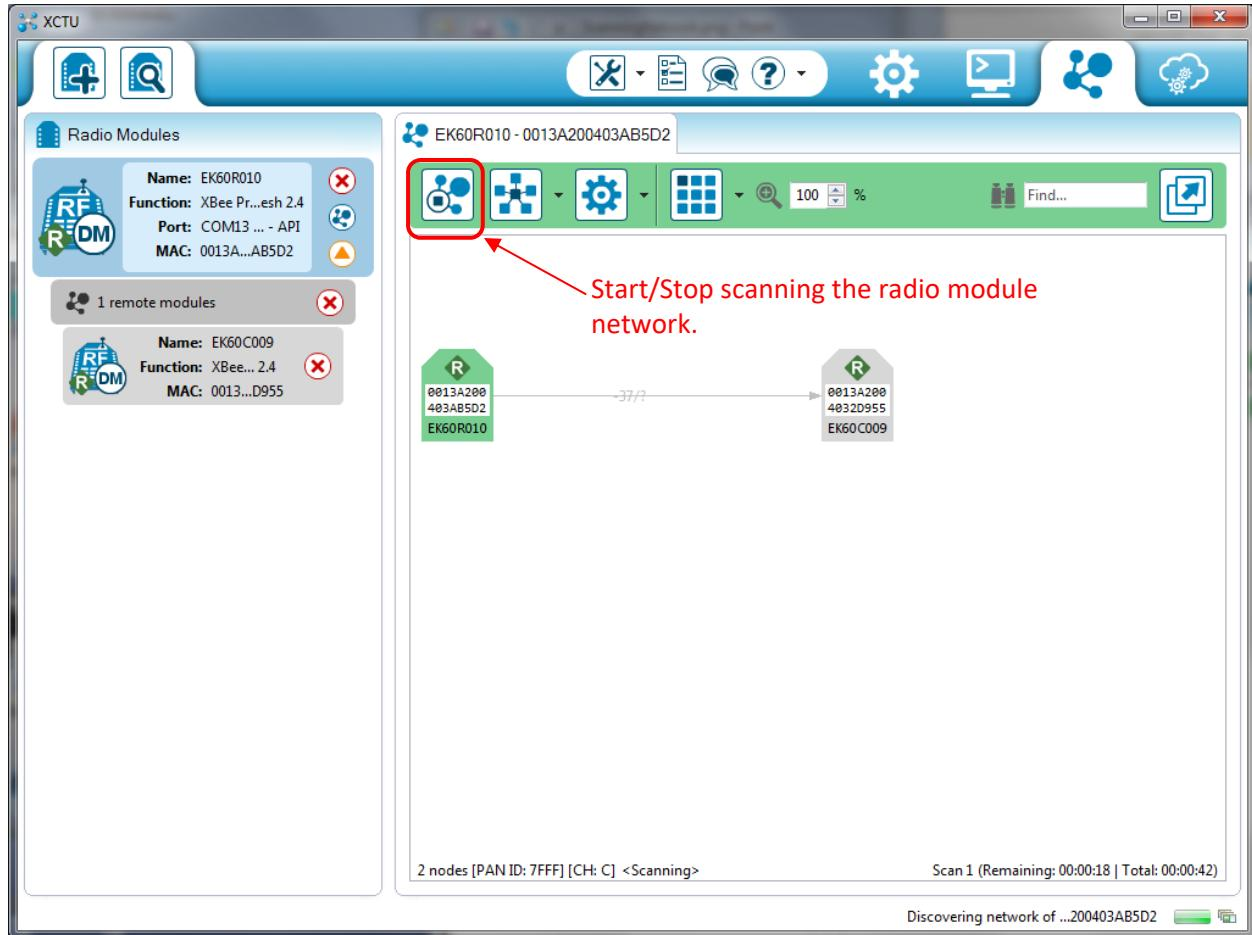

Figure 43: Wireless network display.
- i. In the main XCTU window, select the “Switch to Networking Mode” tool icon on the right upper tool bar in the main window. The lower right portion will change to a tabbed interface showing the EK60R010 base station in the tab’s label (Figure 43).
- j. In the tab toolbar portion of the window, select the “Start scanning the radio module network” tool. The lower portion of the tab window will show the EK60R010 graphic which symbolizes the EchoCal base station. All other transceivers on the network will begin appearing, with links between different transceivers that show the transmit/receive signal power levels. Verify that all of the transceivers appear, and that there is a sufficient transmission path between all transceivers in the network. When satisfied with the performance, select the “Stop scanning the radio module network” tool in the tab’s toolbar (Figure 43).